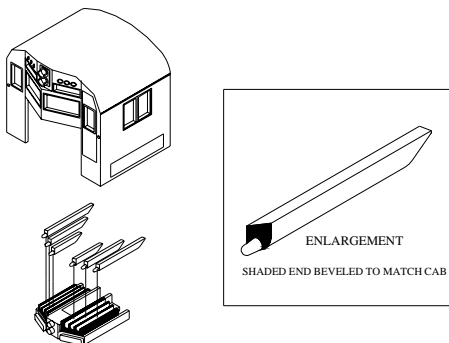

Figure 2
Step (6) Install the double stick tape (PN0117) to the inside of the cab roof. Locate the class light holders (PN0109 & PN0110) and position each into the number board/lens (PN0111) piece. Locate the class lenses (PN0113) on the clear plastic parts sprue. Place the class lenses into the class light holders as shown in Figure 2. Class lights should not protrude past the front of the class light holders. Press this assembly onto the tape inside the cab. Push assembly forward into final position. Use a small screwdriver to slide the class lenses forward. When properly assembled, each lens will protrude through a hole in the face of the cab.